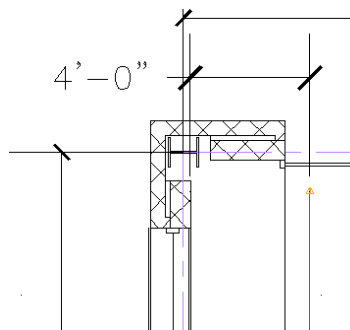

Figure 6.83
11. Type in the distance that will bring you to 4'-0" and then press ENTER (see Figure 6.83).